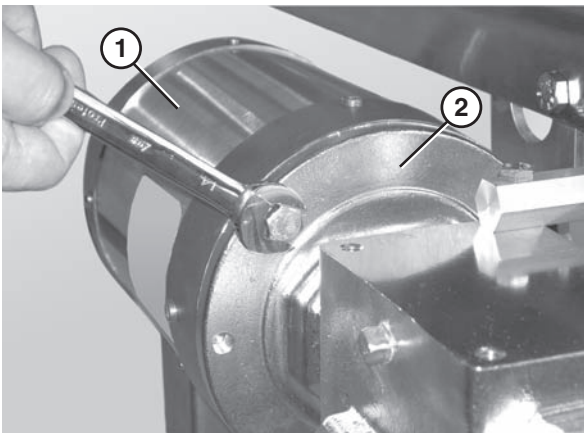

Figure 32
5. Remove the bolts that connect the motor (Figure 32, item 1) to the gear reducer (Figure 32, item 2).